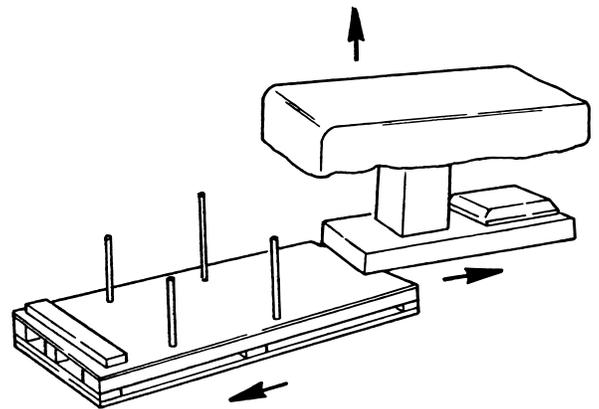

Figure 6.
8. Slide the head end of the table off from the crate base (figure 6) and position it so that just the edge of the table remains on the crate base.